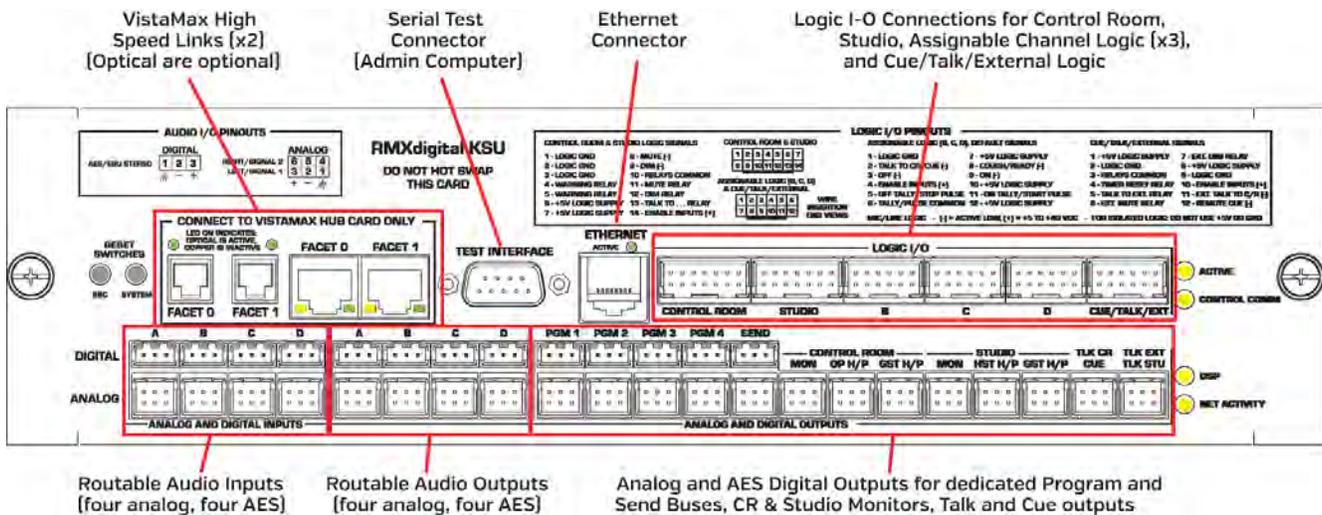

Figure 2-24. KSU Card Connections
- The optional “Optical” card (99-2672-2) has two optical Facet connections in addition to the two standard copper Facet HUB connections (shown in Figure 2-24)